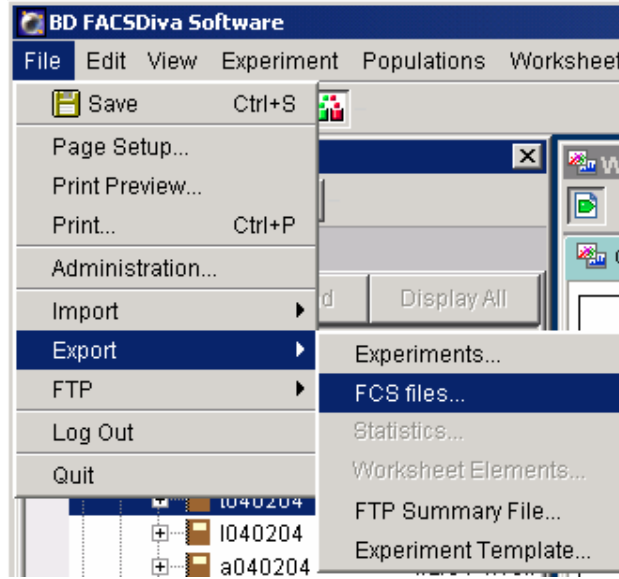

Figure 9
- Next, make sure your experiment is highlighted and go to the File Menu. Go down to Export, and export as FCS. See **Figure 9**.